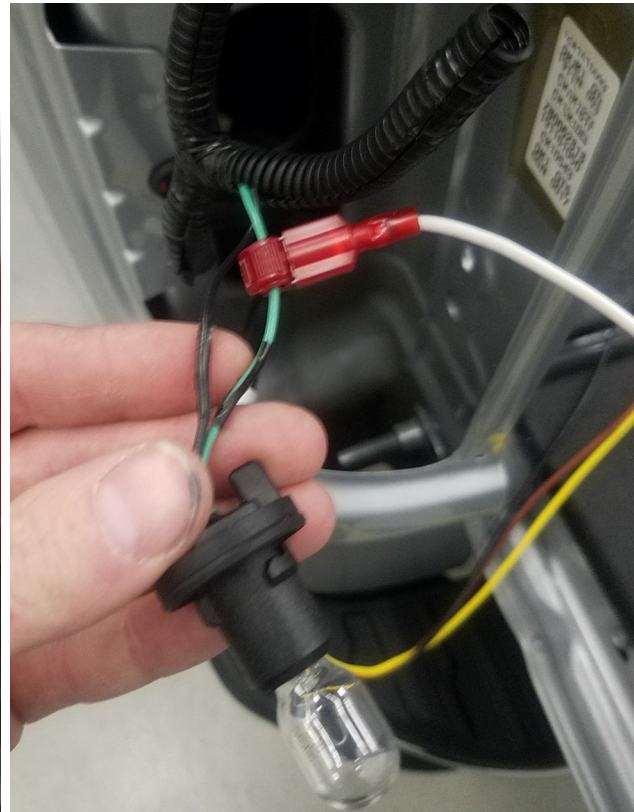

Figure 3: Reverse wire hooked to halogen back-up bulb plug
4. Remove tape release liner on all brackets. Place light bar in chosen position on the bed of truck. Do not stick tape to truck until light bar is in correct position. **Light bar wire should exit toward driver side of truck. Refer to Figure 3**
3. Remove tape release liner on all tape locations. Place light bar in chosen position on the bed of truck. Do not stick tape to truck until light bar is in correct position. **Light bar wire should exit toward driver side of truck. Refer to Figure 3**
2. Wire the white, brown, yellow, and green wire into taillights wiring using supplied Scotchloks. Refer to **Figure 3**.